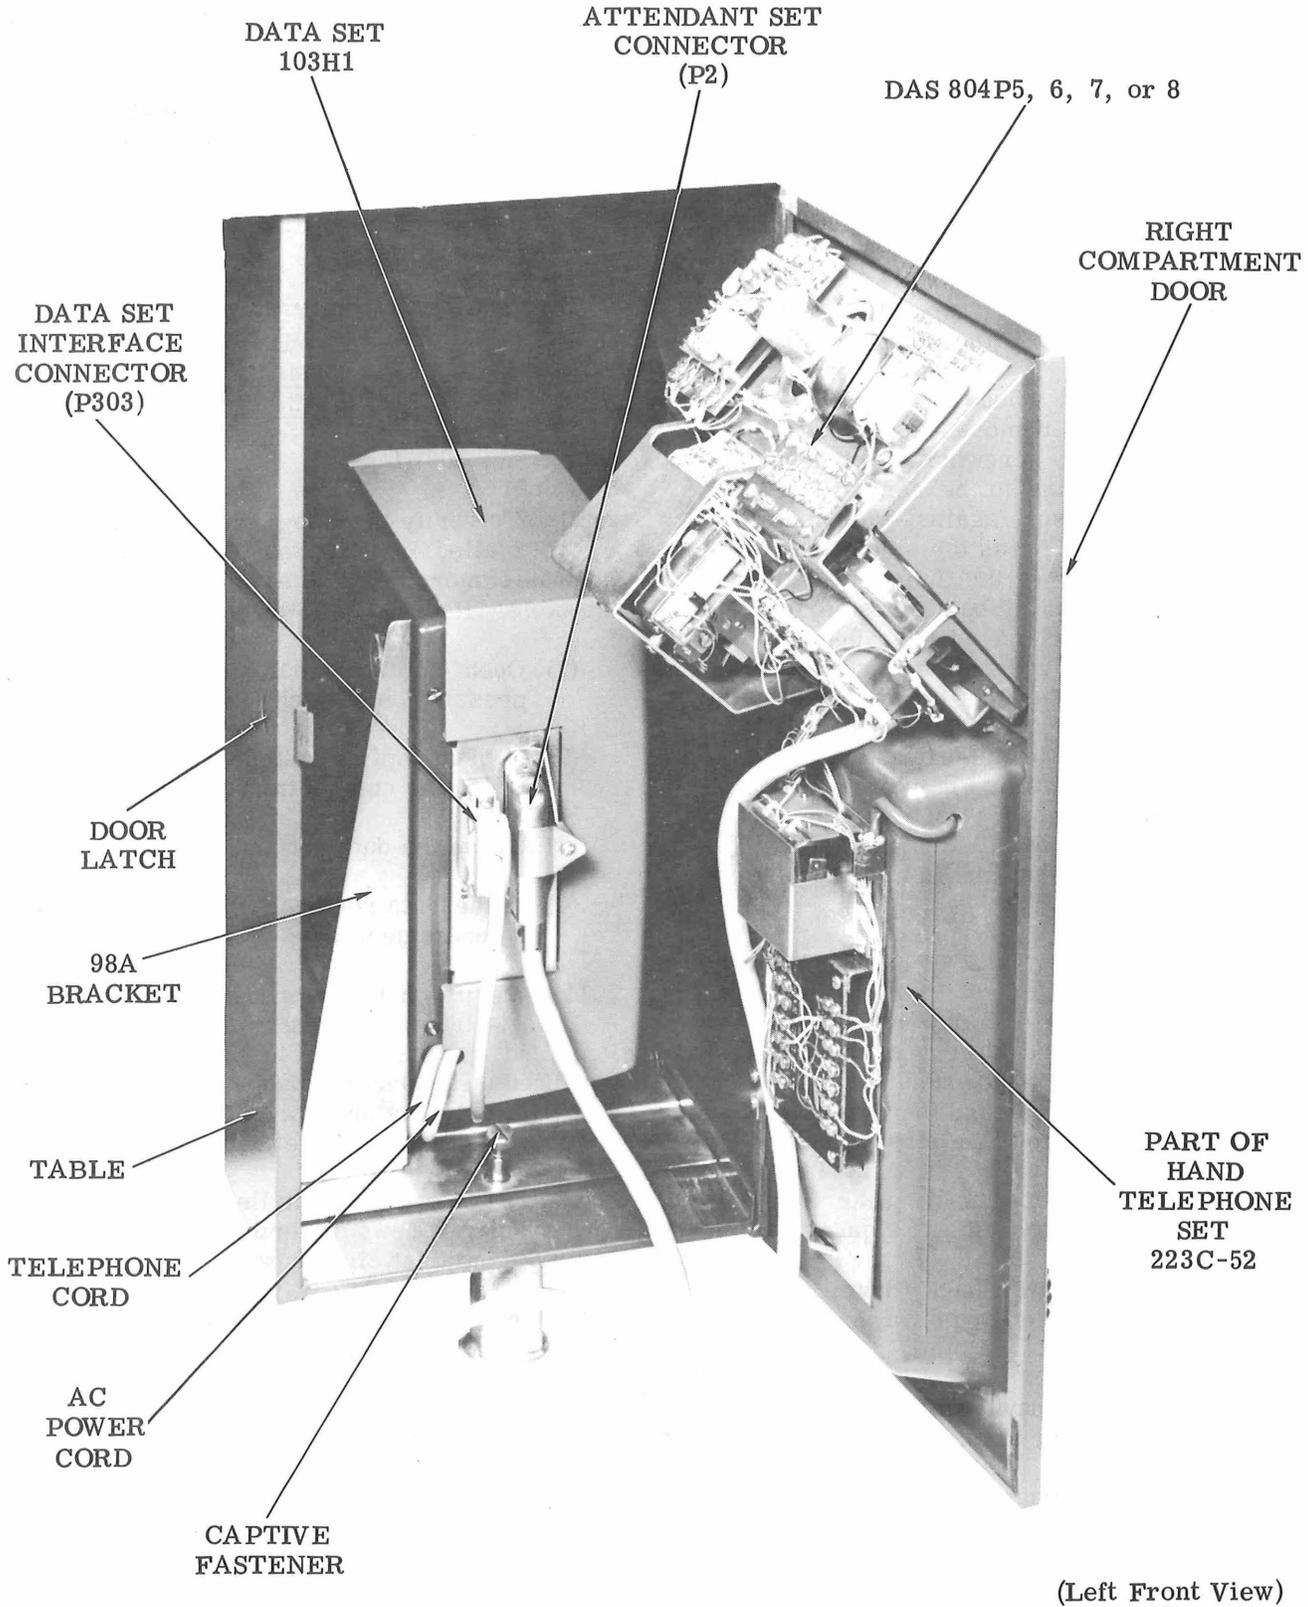

Figure 11 - Data Station Components Located in Right Compartment of a Two-Compartment Table
- (1) Open right compartment door by depressing door latch (Figure 11).
- (2) Loosen captive fastener holding the data set to the compartment floor.
- (3) Grasp the data set and pull out.
- (4) Place data set on floor in front of right compartment door.